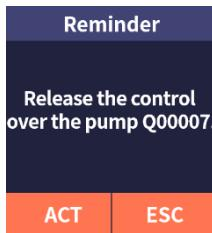

Figure 11.2
(2) Release the control over the pump (as shown in Figure 11.2). Click "ACT" to release the binding, or click "ESC" to return to "More" interface.